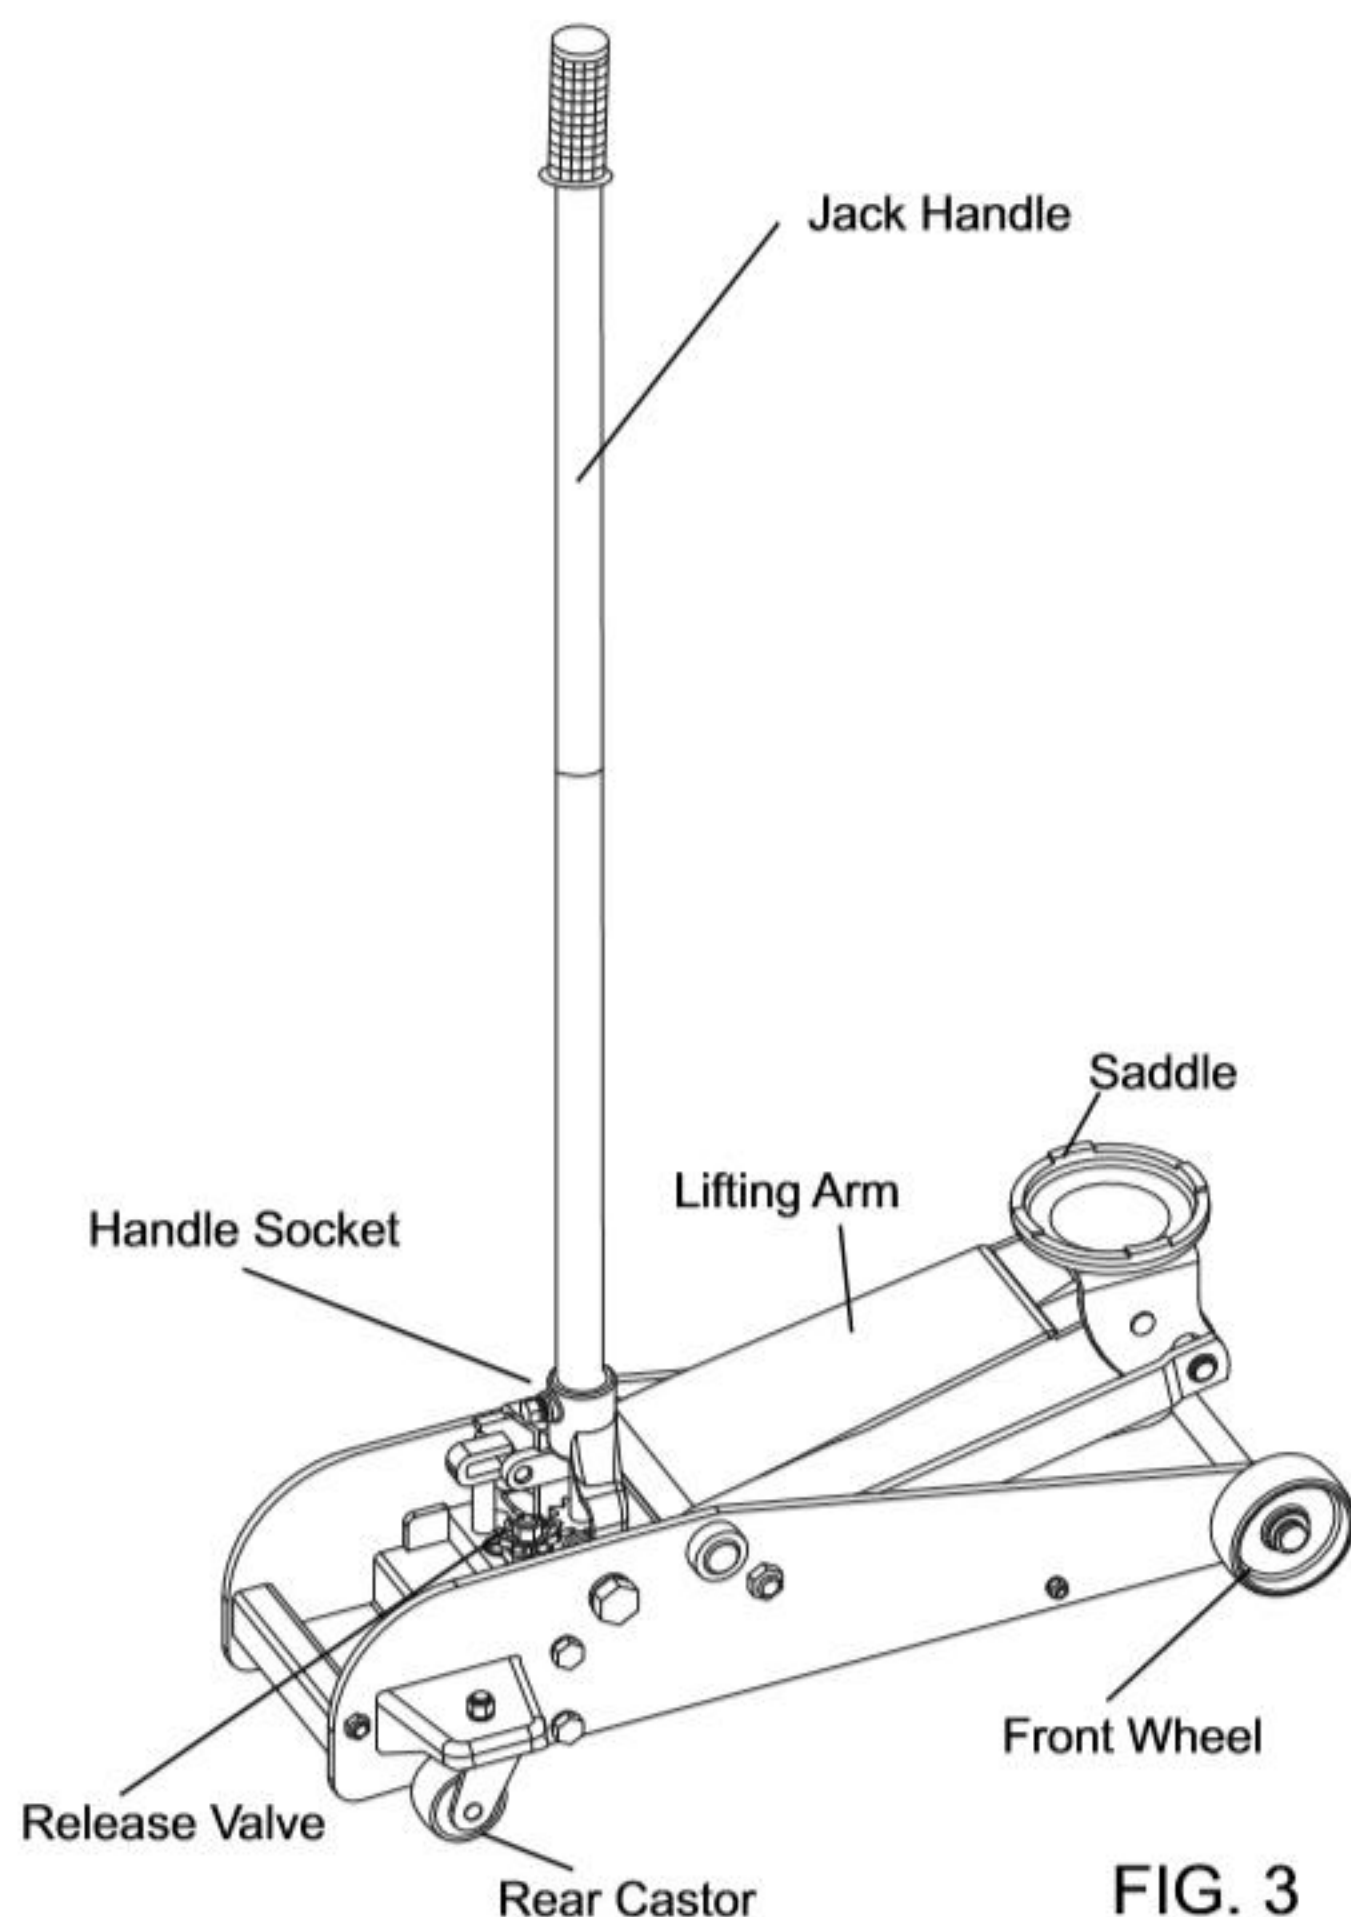

FIG. 3
Compare Fig. 3 illustration with your jack BEFORE operation to become familiar with the location of various jack components.
- Close the release valve by turning the jack handle clockwise until tight. (see Fig. 3)
- Refer to the vehicle manufacturer's owner's manual to locate approved lifting points on the vehicle. Position jack so that the saddle (see Fig. 3) is centered under the load at an appropriate lift point.
- Position the jack on level ground and fully lower the saddle. (Ram will be all the way in). Remove oil filler plug located under tool tray (see Fig. 3 & 4).